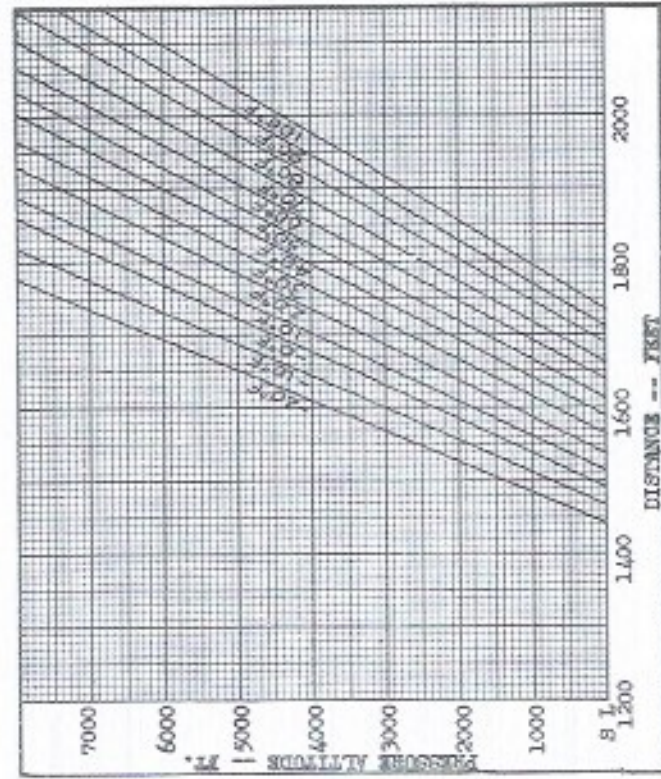

Figure 15 - Landing Over Obstacle Distance
55. Landing distance at various altitudes and temperatures are shown on Figure 15. Included in the distance given by these curves is that required to contact the ground from an altitude of 50 feet above the field at an approach speed of 74 mph. The data from which these curves were derived was obtained during the CAA Certification flight tests conducted under the following conditions: